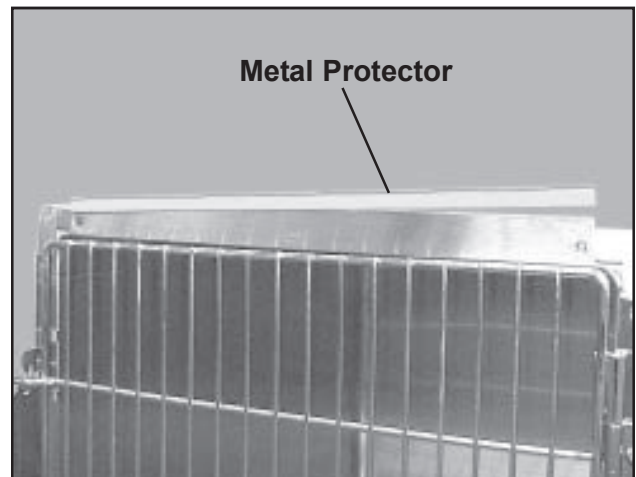

Figure 15. Removing the Metal Protector
2. Remove the metal protector on the lower front cage flange (Figure 15).